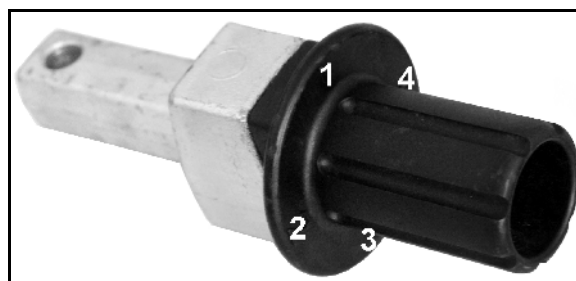

Fig. 46
1. Remove the clip pin (Fig. 46/3).
2. Engage the turning lever (Fig. 46/2) in the required direction.
3. Use the hand lever (Fig. 46/1) to lengthen or shorten the spindle.
4. Secure using the clip pin (Fig. 46/3).